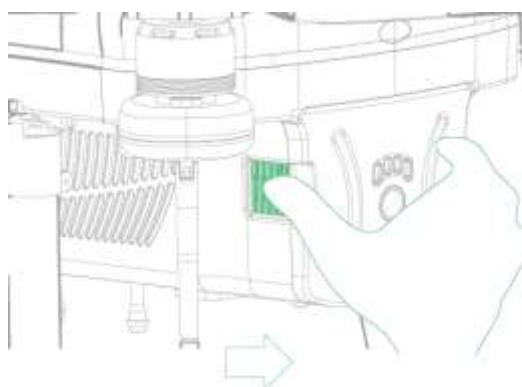

Figure 0-2
- Step 3 Keep the battery horizontal and take it out, as shown in Figure 0-2.